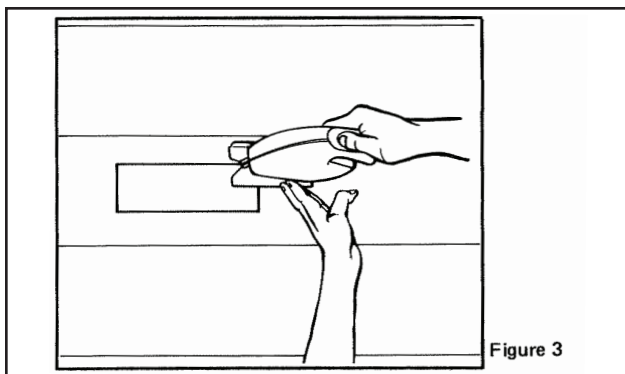

Figure 3
1. Cut opening 3½" x 10¼" in wall so that wall cap will line up easily with ductwork. (Fig. 3)